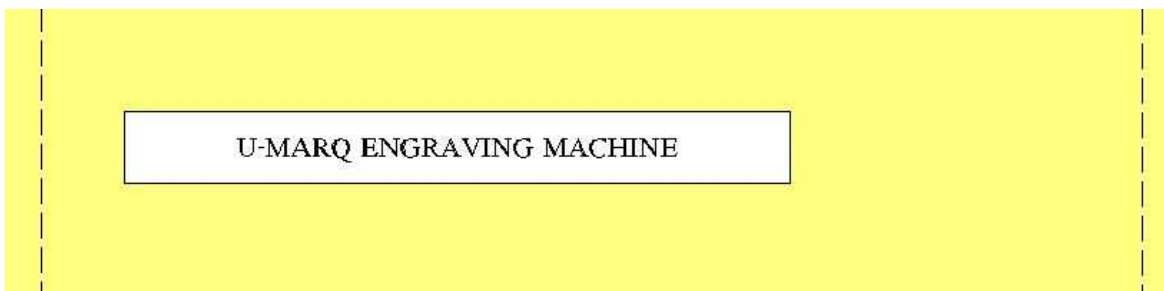

Figure 4
- 4 you will now have the text on your screen as in Figure 4